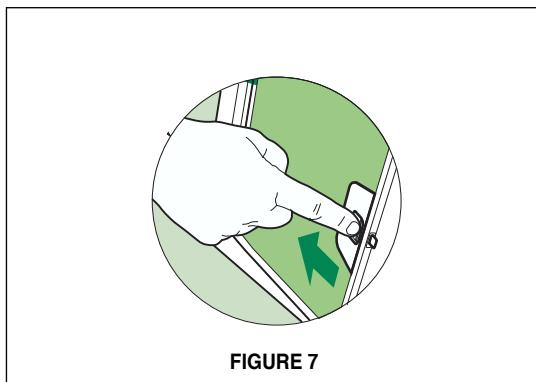

FIGURE 7
1. Remove the rangehood from the carton and place on a flat surface. Cover the surface to prevent accidental damage. Remove all parts including the backdraft damper, plastic grille and literature package before discarding the carton. Remove the grease filters and set aside (see **FIGURE 7** on next page for instructions).
The grease filters are removed by pressing the handle on the right side of the filter (**FIGURE 7**). When replacing, make sure that the filters are properly positioned with the handles on the right and visible. There are 2 grease filters, one in the slide out part of the hood, the other in the back.